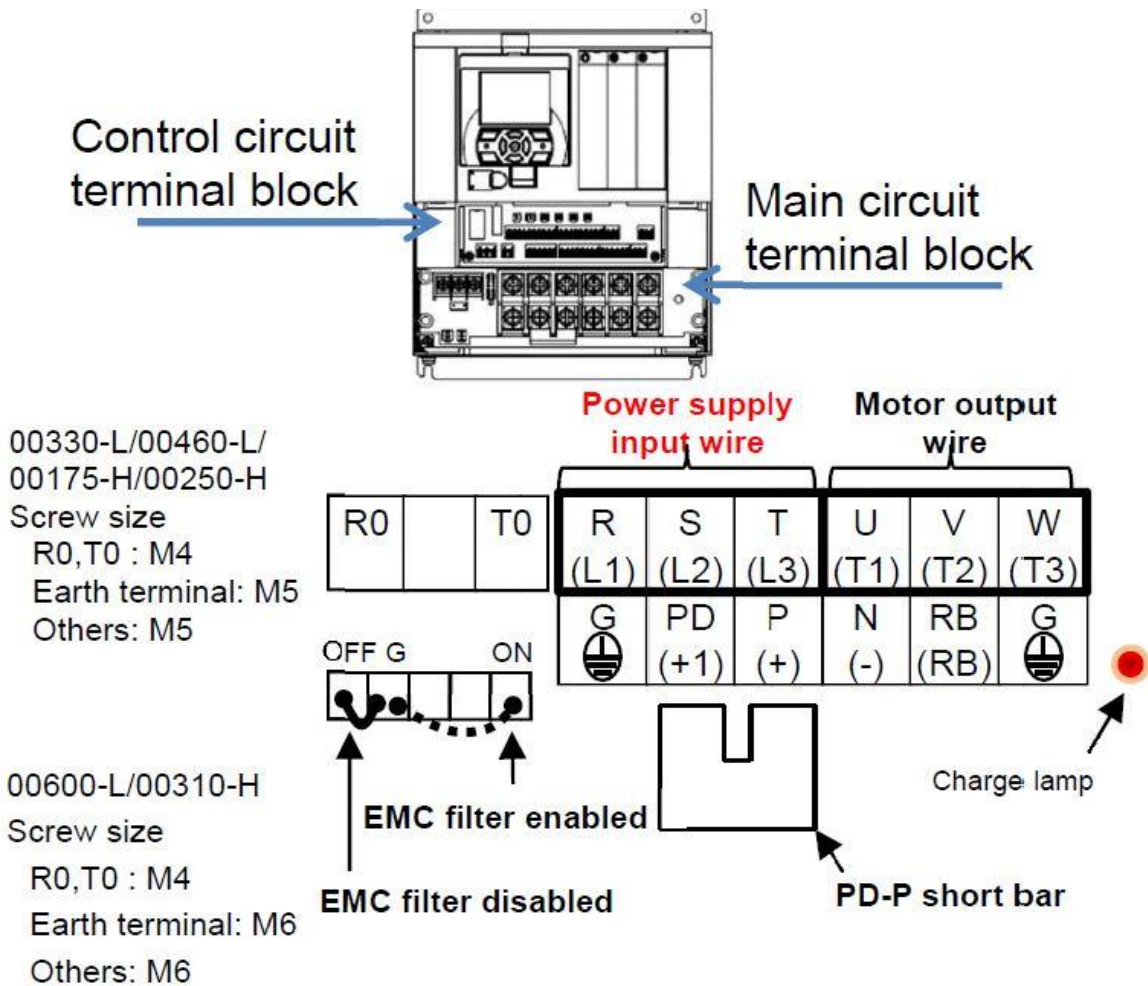

Figure 8: Hitachi VFD Power Supply Input, Motor Output & Ground Terminals
6.4.1 See *Figure 8* below for reference of all power supply input, motor output, and ground locations.